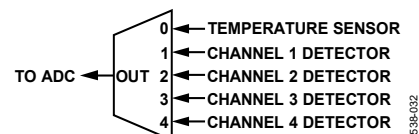

Figure 27. ADC Input Multiplexer Mapping
The multiplexer position can be programmed using the MUX\_SEL bits (Register 0x04A, Bits[3:1]). The multiplexer has five valid states, from 0 to 4. Figure 27 shows the multiplexer mapping.
- Bit 1 to Bit 3: MUX\_SEL (read/write). These bits are used to select the ADC input, according to Figure 27.